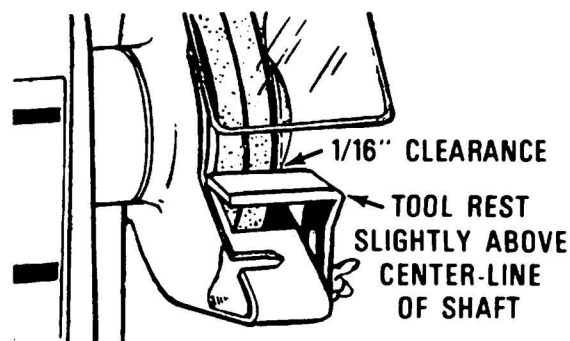

FIGURE 10
3. The tool rests should be positioned securely so that a clearance of approximately 1/16 inch can be maintained between wheel and tool rests. Adjust the tool rest so that the material to be ground will contact the wheel slightly above center-line of shaft at the desired angle, as shown in figure 10.